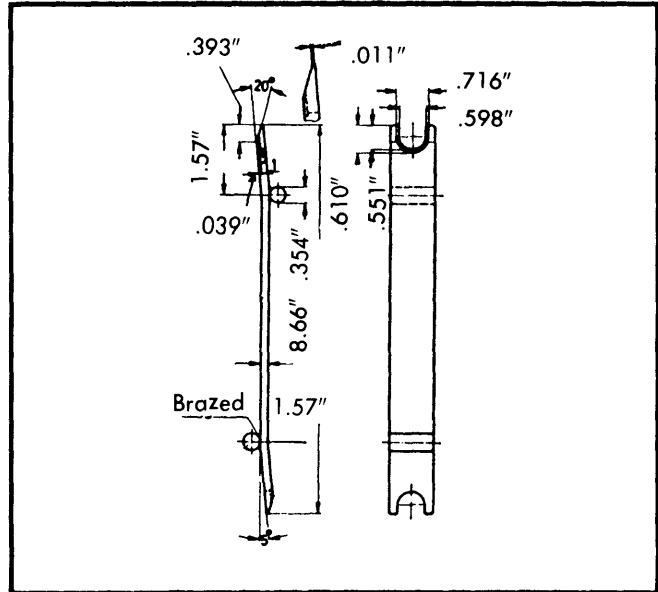

Fig. 3 Valve Stem Oil Seal Tool
- 2) Prepare a tool for removing oil seal. See Fig. 3. Using oil seal tool, lever oil seal off of guide and stem.